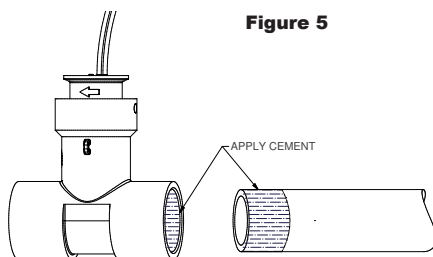

Figure 6
3. Apply PVC cement to pipe ends and Tee sockets and quickly assemble the parts while the cement is fluid. Follow the cement manufacturer's instructions (see Figure 6).